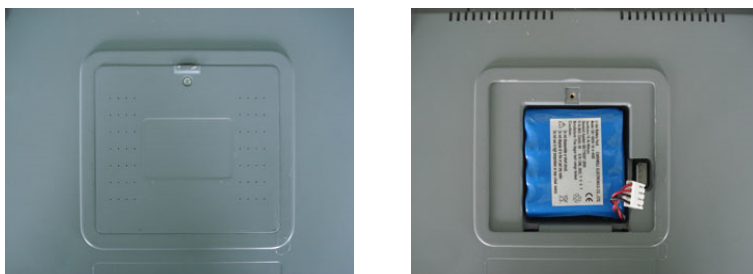

Figure 8-1 Battery Installation
- ◆ The battery is put into the battery compartment without connecting to the battery socket at the factory. Upon receipt of the ECG machine, if the built-in rechargeable battery is to be used, connect the battery to the socket first. See Figure 8-1 for installation: